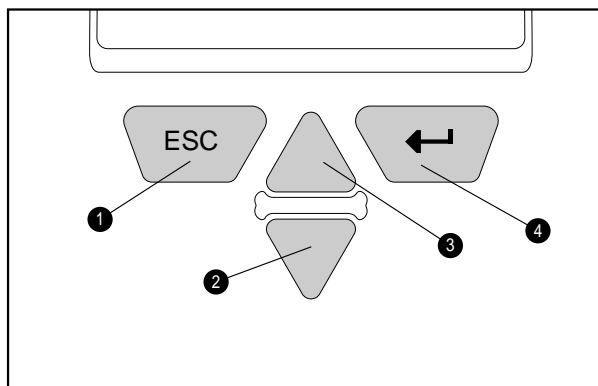

Figure 6-4. Integrated Management Display buttons
To navigate through the menus, use the four buttons shown in Figure 6-4. The UP and DOWN arrow keys (❷ and ❸) allow the user to move through the menu screens and choose menu items. The right button (❹) acts as an Enter key and allows the server to travel down through the menus. The left button (❶) acts as an Escape key and allows travel back up the menu.